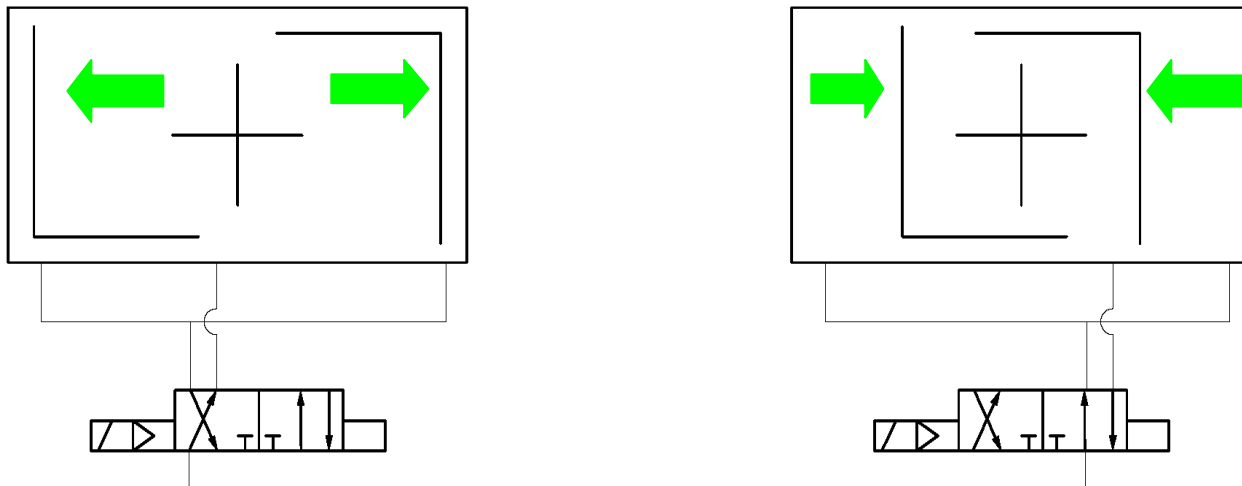

Figure 1: Schematic diagrams for double-acting actuators EB SYD
- ▶ double-acting actuators EB SYD are shown in Figure 1